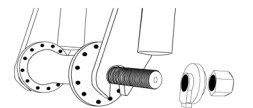

fig. 12c
- The washer type is a hat-shaped washer which fits into a matching hole in the front fork dropout (fig. 12c).